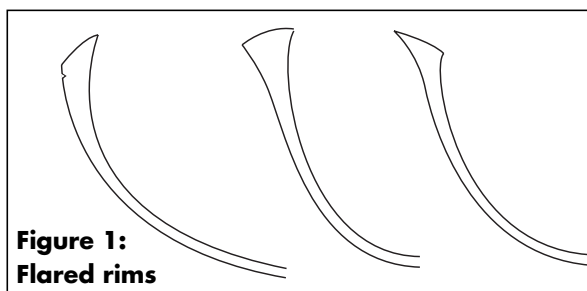

Figure 1:
- In the flared rim (Figure 1) as the bowl wall approaches its terminus it simply flares, increasing thickness to expose more wood at the bowl's edge.